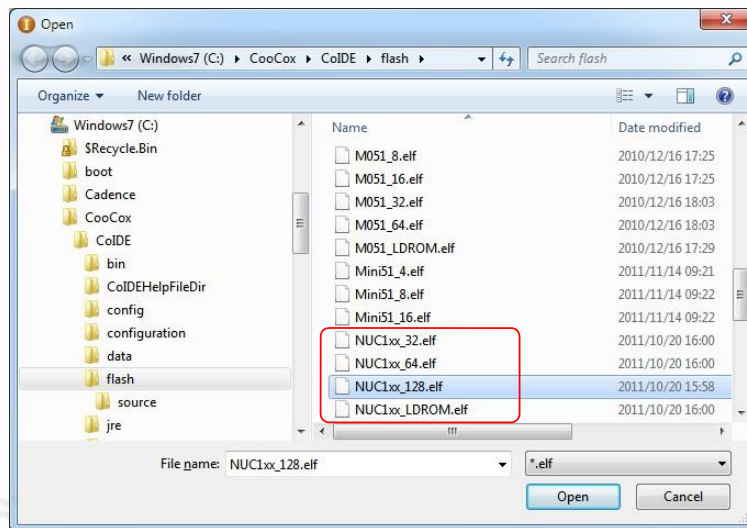

Figure 4-22 Set the Programming Algorithm File for CooCox ColDE
Step 5: To ensure the firmware will be downloaded to APROM or LDROM, select *NUC1xx_128.elf* or *NUC1xx_LDROM.elf* file (NUC100 series is used in this case) as shown in Figure 4-22; “32, 64, or 128” in the file name means the capacity of APROM. If no specific file is founded, specify the following path “C:\CooCox\CoIDE\flash”.